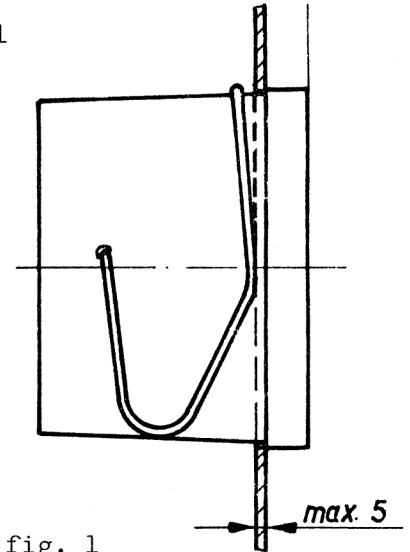

fig. 1
- For panel mounting the bracket as shown in fig. 1 is provided.
- For rail and wall mounting the fixing bracket (4) is folded outwards and the complete insert is pulled out. The fixing holes for 6 mm \varnothing screws are located in the base of the case.